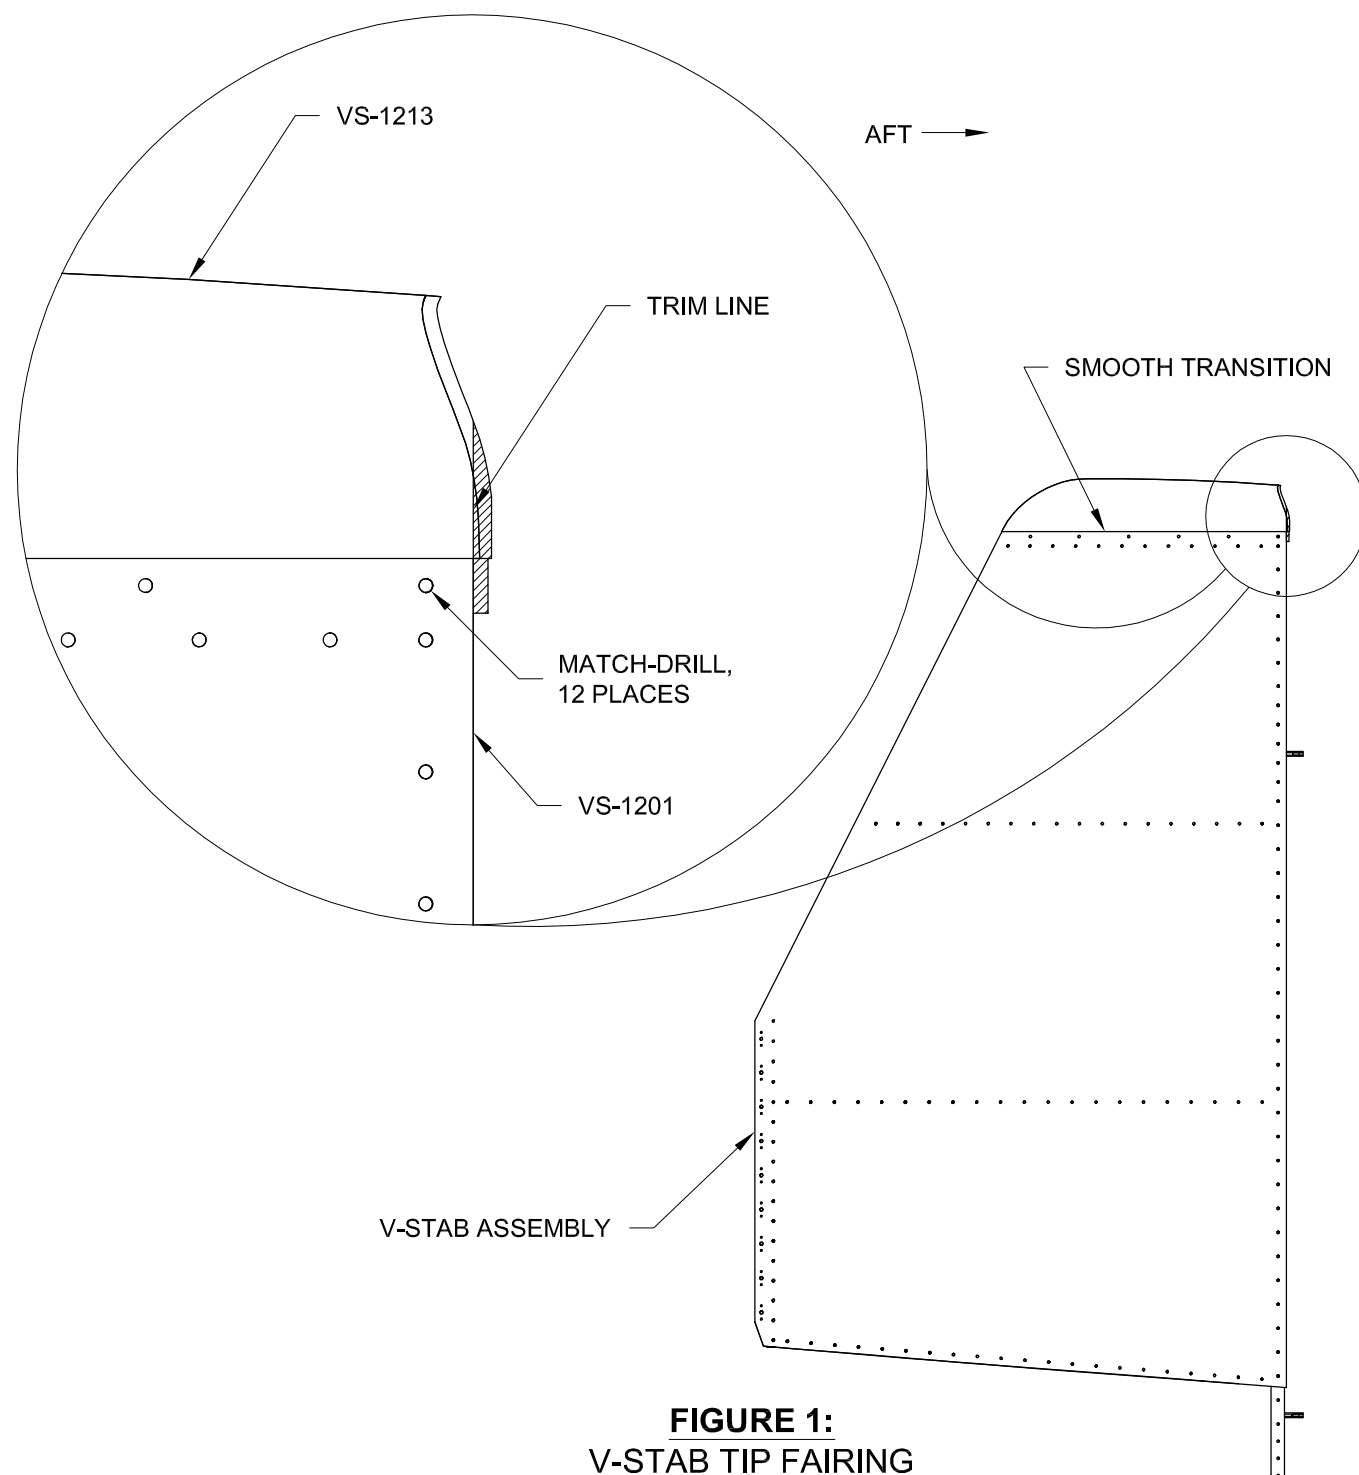

FIGURE 1:
Step 3: Mark the aft edges of the VS-1213 even with the aft edges of the VS-1201 as shown in Figure 1. Remove the VS-1213 and trim/sand the aft edges to be flush with the VS-1201.